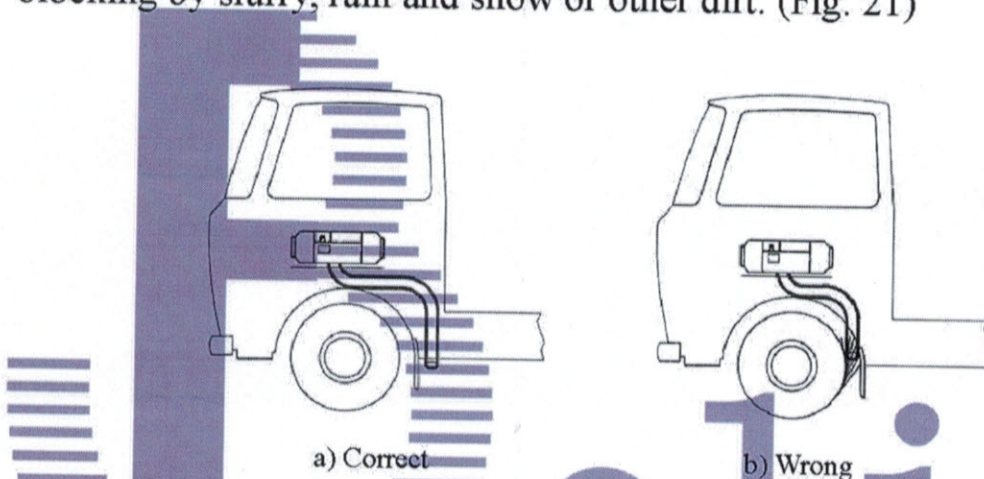

Fig. 21
4.6.5 Arrangement of the tubes shall protect the tube openings from blocking by slurry, rain and snow or other dirt. (Fig. 21)